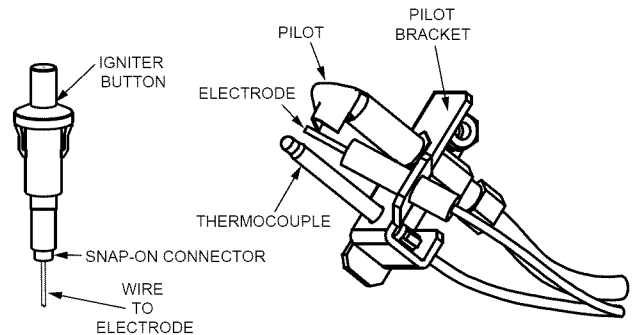

FIGURE 31.
3. Pull the thermocouple from the pilot assembly (Figure 31).
The piezoelectric igniter system consists of the igniter button, electrode, and wire. The pilot is ignited by an electric spark generated when the igniter button is pressed. The electrode should be centered between the pilot and thermocouple. (See Figure 31). Use only factory authorized piezoelectric igniter parts for replacement.